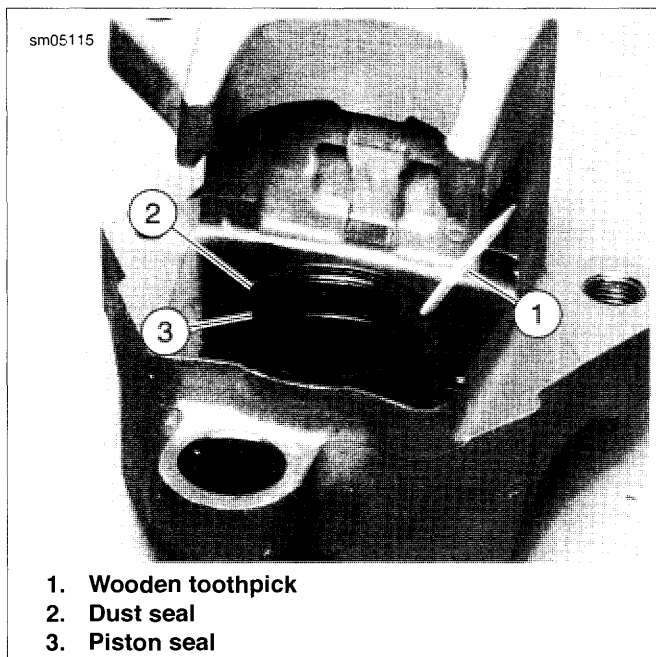

Figure 2-116. Caliper Seals
6. See Figure 2-116. Install a **new** piston seal (3) and a **new** dust seal (2) into piston bore.